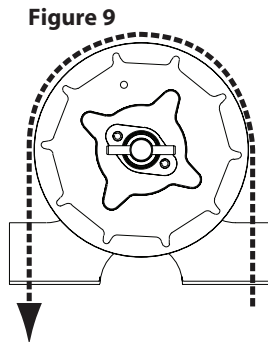

Figure 9
- 1) Route the hand chain through the chain guide, around the pocket wheel and back through the chain guide. **Fig.9.**